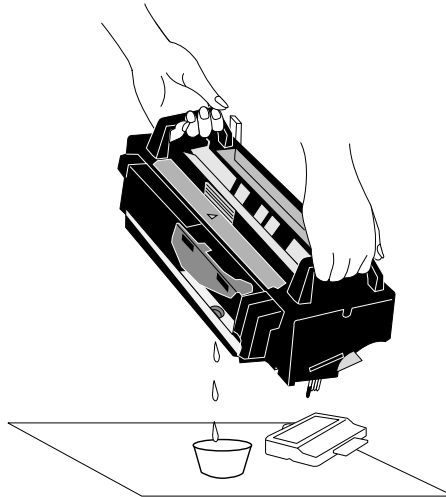

Fig. 6.7 Drain Oil from Fuser Unit
8. Align the fuser unit over an appropriate waste container, such as an old jar, and tilt the unit so the excess oil pours into the container (fig. 6.7). Then, dispose of the oil following safety laws and regulations.